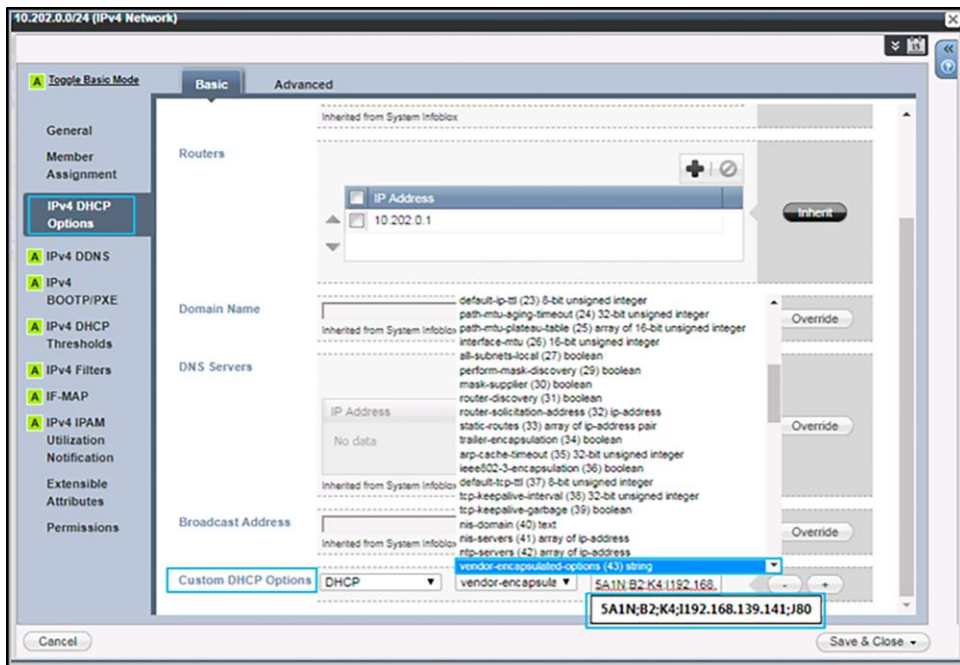

Figure 30.
- a. In the Custom DHCP Options area, choose DHCP and vendor-encapsulated-options (43) string. Enter the option 43 ASCII string, such as 5A1N;B2;K4;I192.168.139.141;J80 (**Figure 30**).